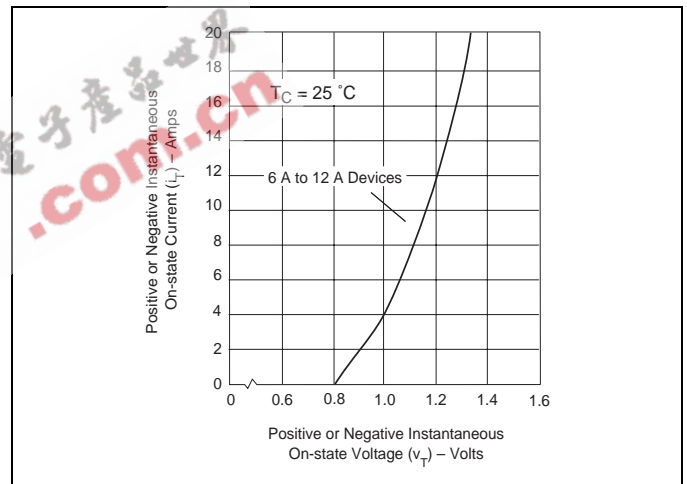
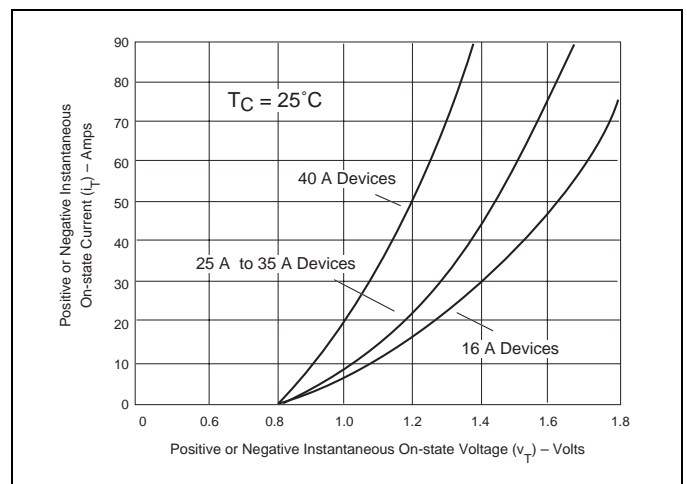

Figure E4.5 On-state Current versus On-state Voltage (Typical) (6 A to 12 A)
Figure E4.6 On-state Current versus On-state Voltage (Typical) (16 A to 40 A)
- See Figure E4.5 and Figure E4.6 for IT and vT.